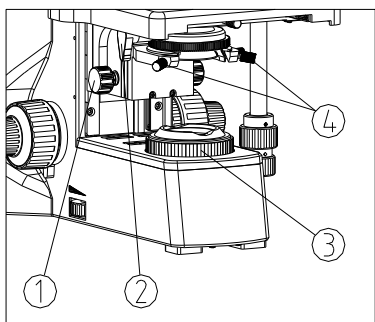

Fig. 17
(1) Rotate the condenser up-down knob ① to raise it to the highest position. (See Fig. 17)
(2) Rotate the spanner ② to move the front lens into light path.